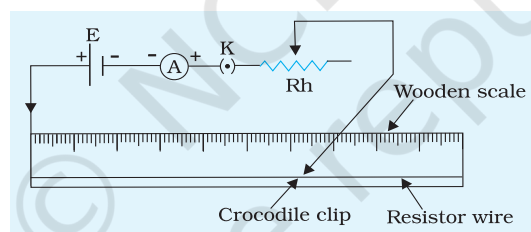

Fig. E 1.3
- Set up a circuit as shown in Fig. E 1.3.